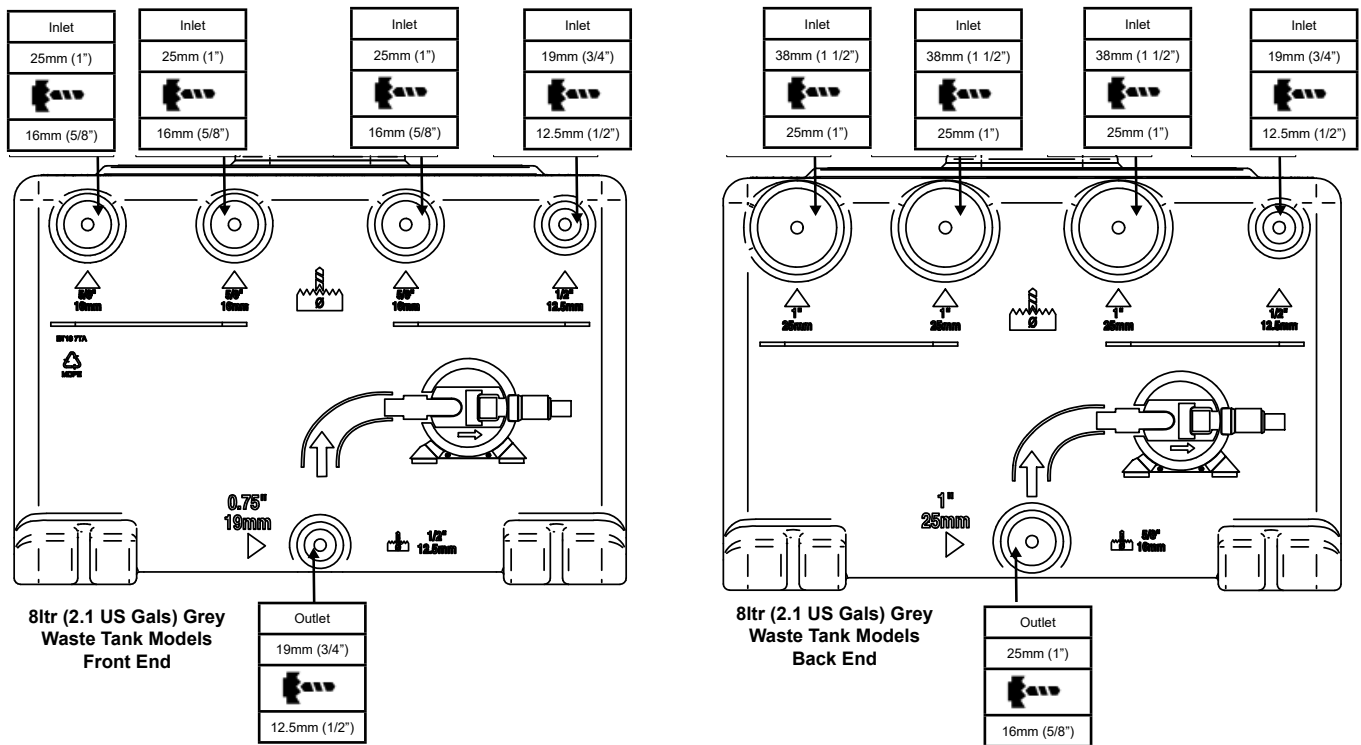

Figure 3 Port Sizes & Recommended Drill Diameters For 8ltr (2.1 US Gals) Grey Waste Tank
- Fig. 3 Port Sizes & Recommended Drill Diameters For 8ltr (2.1 US gals) Grey Waste Tank Models
Step 1: Drill only the ports which are to be used in the installation. Port sizes and recommended drill diameters are shown in Figure 3 for 8ltr (2.1 US Gals) tank. Ensure all swarf is removed from inside the tank after drilling.